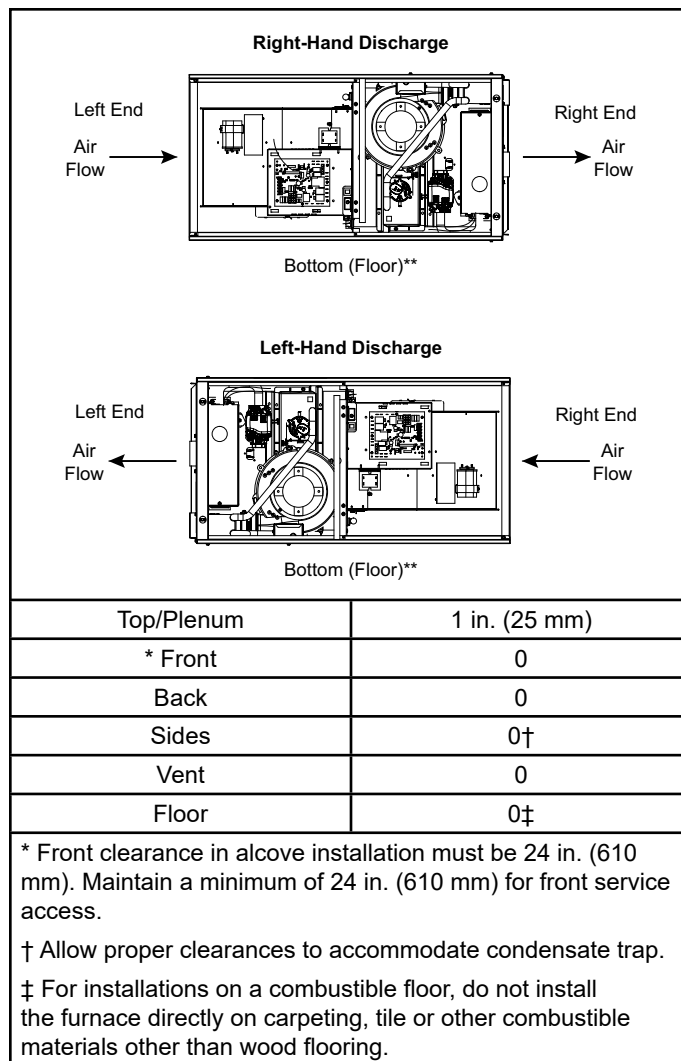

Figure 18. Installation Clearances Horizontal Applications
Refer to Figure 18 for clearances in horizontal applications.
1. Select location for unit keeping in mind service and other necessary clearances. See Figure 18.